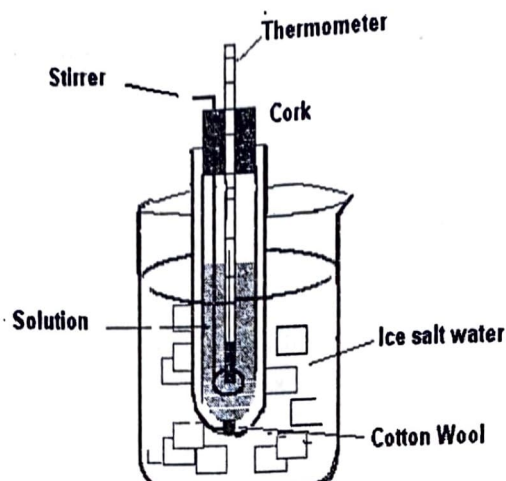

Figure 11.1. Apparatus for freezing point depression
5. Assemble the freezing point apparatus and place it in a beaker containing crushed ice and water, as shown in Figure 11.1.
10. Repeat steps 5 through 8 for trial (II).